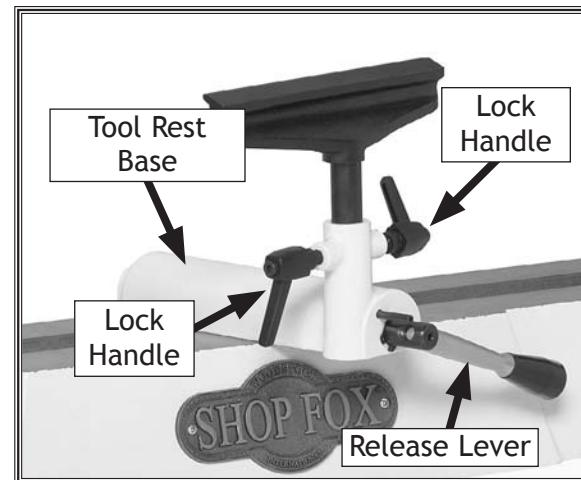

Figure 9. Tool rest controls.
1. Loosen the release lever and slide the tool rest base along the bed (Figure 9).
1. Loosen the lock handles (Figure 9) and adjust the tool rest vertically or swivel it as needed.